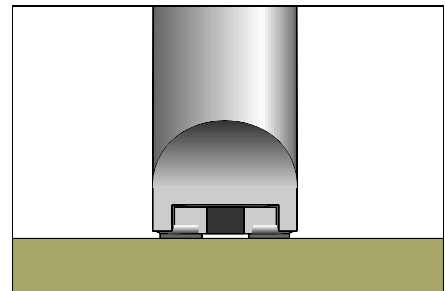

Figure 2: Removing SMT chip component with forked tip. After solder has melted lift tip out and up.
2. Place the forked tip directly over the top of the component. The extra solder on the tip will melt both solder joints. When the solder has melted slide the component out and up. (See Figure 2).